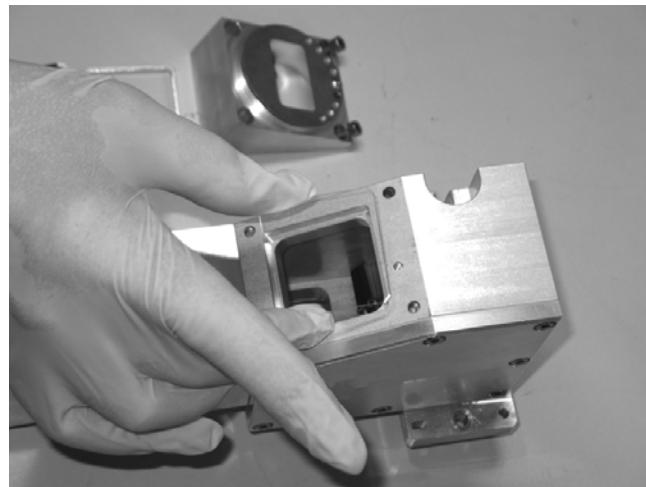

Figure 123: Inserting the beam splitter
9. Carefully re-insert the beam splitter (see Figure 123).